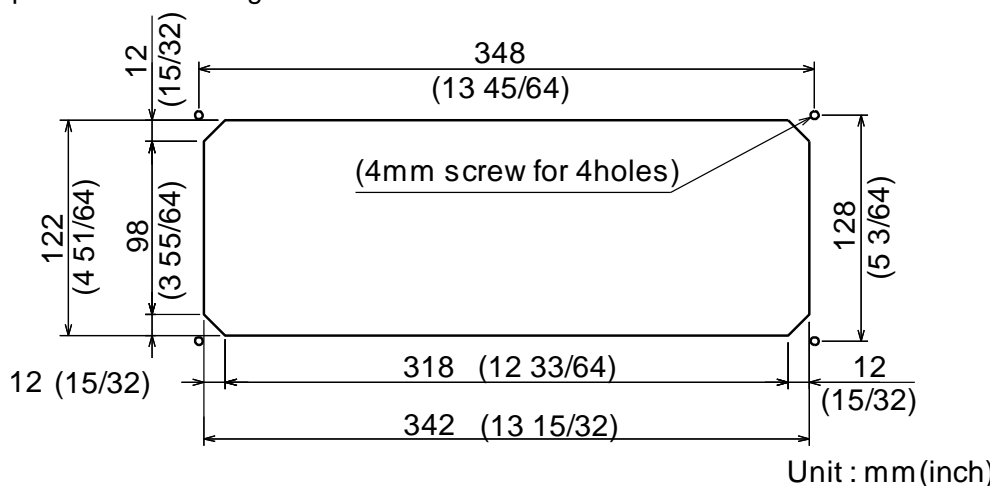

Figure 3.9 Cutout Diagram for Operation unit
- (1) Cut an opening as shown in Figure 3.9 in desired location on a panel.
- (2) Mark position of mounting holes.